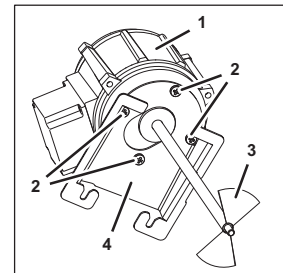

Fig. 63
4. Remove the agitator blade (Fig. 63/3) from the agitator motor (Fig. 63/1).
5. Remove the fastening bolts (Fig. 63/2) from the agitator motor (Fig. 63/1) on the agitator motor mount (Fig. 63/4).
6. Attach the new agitator motor (Fig. 63/1) to the agitator motor mount (Fig. 63/4) using the fastening bolts (Fig. 63/2).
8. Attach the new agitator blade (Fig. 63/3) to the new agitator motor (Fig. 63/1).